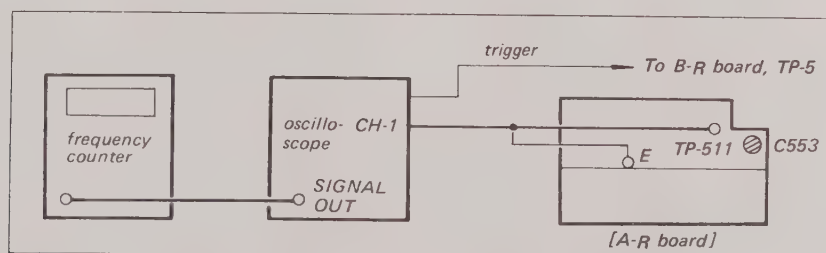

Fig. 8-9. 3.58 MHz oscillator frequency adjustment
1. Connect a frequency counter having a high input impedance to TP-511 on the A-R board. See Fig. 8-9.